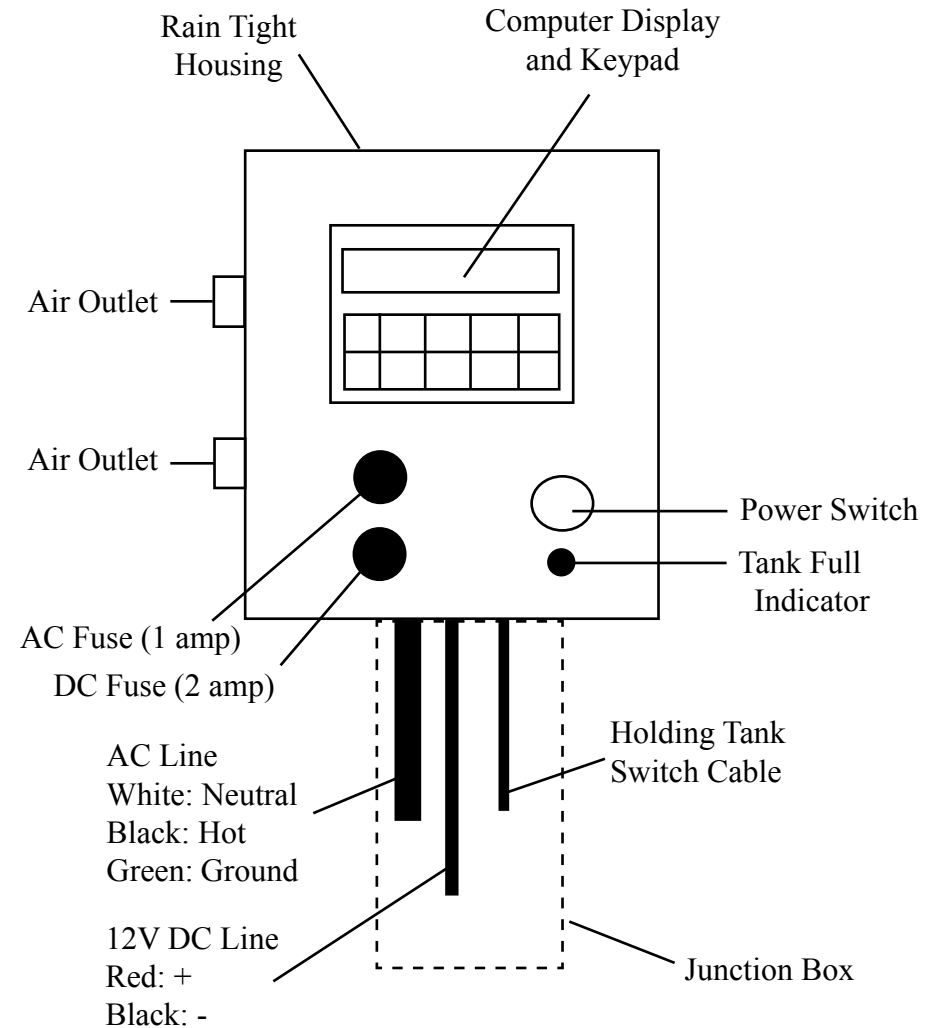

Figure 3
STEP 1. Mount programmable Controller Model 3000ES (Figure 3) in a vertical position near the air source, power source, and holding tank if possible. CAUTION: The Model 3000ES is NOT intrinsically safe. If this controller must operate in a CLASS I area, use the XITECH Model 2550ES CLASS I Controller instead. Air supply needs to be free of WATER and OIL to have minimum maintenance. NOTE: The ON/OFF switch inside the controller is for AC and DC power.
STEP 2. Install holding tank shutoff assembly into holding tank (a 2" standard pipe inlet will be required in the holding tank). The level of product in the holding tank can be set by raising or lowering the liquid level float switch rod. Wire the shutoff switch cable into the controller (Figure 3). NOTE: If additional signal cable is needed to position the holding tank assembly further away from the controller, use 18 gauge 2-conductor wire.
STEP 3. Attach power line from the AC or DC power source to the controller (Figure 3). Turn on the controller power switch. If the red "Product Tank Full" light stays on, you have a problem with tank shut-off wiring. Turn off the power switch and re-check the tank shutoff wiring. If the light continues to stay on, call the factory.